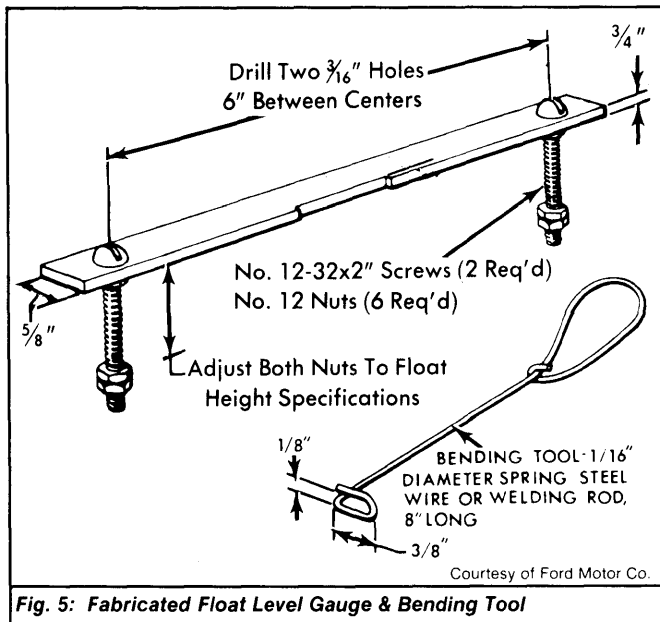
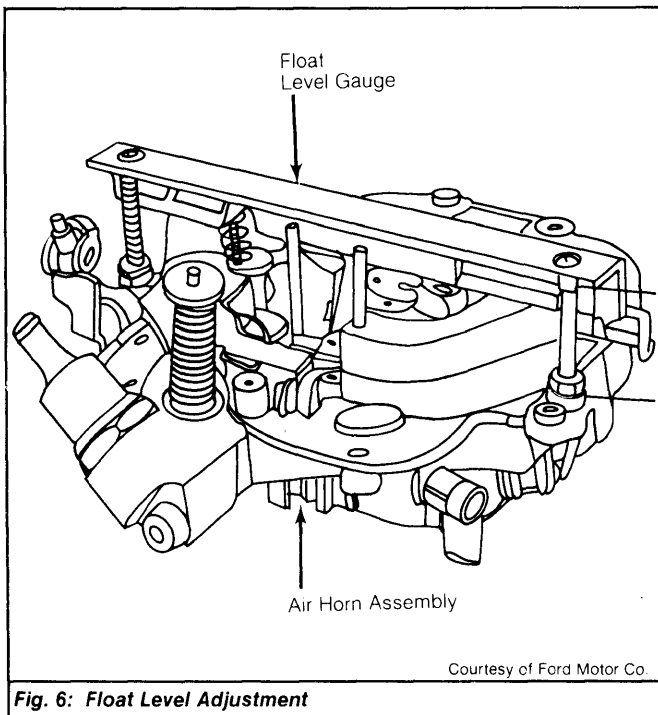

Fig. 5: Fabricated Float Level Gauge & Bending Tool
Fig. 6: Float Level Adjustment
1) Fabricate float level gauge as shown. See Fig. 5. Adjust fabricated gauge to specified height. Remove air horn assembly from carburetor. Insert gauge into outboard holes in air horn. See Fig. 6.
- 2) Measure clearance between auxiliary needle tab on rear of float arm and tip of needle shaft. If adjustment is needed, bend auxiliary fuel valve tab. See Fig. 6.